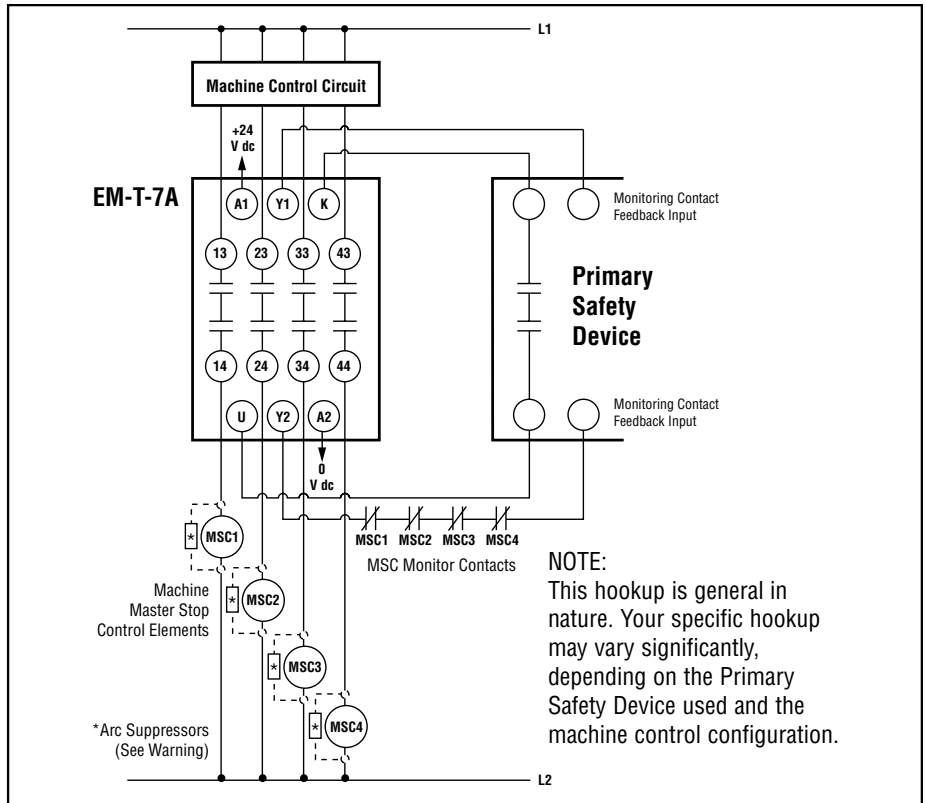

Figure 3. Generalized EM-T-7A Hookup for One-Channel Control
The model EM-T-7A Extension Module provides additional forced-guided (positive-guided) relay contacts for a Primary Safety Device, such as an E-stop Safety Module or a two-hand-control module. Controlled by the safety outputs of the Primary Safety Device, the EM-T-7A Extension Module provides four redundant outputs. These outputs may be connected to control-reliable machine power interrupt circuits. Each of the four Extension Module outputs is a series connection of two forced-guided relay contacts (K1 and K2 in Figure 3).
The Extension Module offers an output circuit at terminals Y1 and Y2 which provides K1 and K2 contact status information for connection to the monitoring input of the Primary Safety Device (see Figure 3). This monitoring circuit prevents the Primary Safety Device from being reset if contacts of either K1 or K2 of the Extension Module fail in a shorted condition.
2) ALWAYS connect terminals Y1 and Y2 of this Extension Module to the monitoring input of the Primary Safety Device that controls it (see Figure 3).
One-Channel Control (Figure 3)
The hookup diagrams in Figures 3 and 4 show a generic connection of the four safety output channels of the Extension Module to Master Stop Control Elements MSC1 through MSC4. A Master Stop Control Element is defined as an electrically powered device, external to the Extension Module, which stops the machinery being controlled by immediate removal of electrical power to the machine and (when necessary) by applying braking to dangerous motion (reference ANSI B11.19, section 5.2: “Stop Control”). **To achieve control reliability, two redundant MSCs are required to control each machine hazard.**
To satisfy the requirements of control reliability, all MSCs must offer at least one normally closed forced-guided monitor contact. One normally closed monitor contact from each MSC is wired in series to the monitoring contact feedback input of the Primary Safety Device, as shown in Figures 3 and 4. In operation, if one of the switching contacts of any MSC fails in the shorted condition, the associated monitor contact will remain open. As a result, it will not be possible to reset the Primary Safety Device.
NOTE: The Extension Module can only be used safely when its operation is controlled via an appropriate Primary Safety Device, connected to the Extension Module according to wiring diagrams shown in Figure 3 or 4.
- 3) Confirm proper connection of the Extension Module to the controlling Primary Safety Device according to the wiring diagram (see Figures 3 and 4).